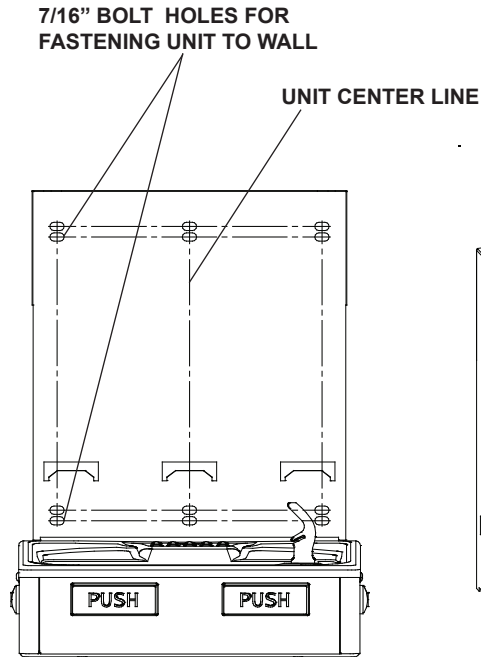

Fig. 13
- 2) Remove wall mounting plate from Bottle Filler. Place wall plate against wall on top of basin. Center the wall plate side to side with the basin. Mark the six (6) mounting holes with a pencil (See Fig. 13).
- 4) Install wall mounting plate to wall using six (6) 7/16" obround mounting holes (mounting bolts not included) (See Fig. 13). Use appropriate fasteners for your wall type.